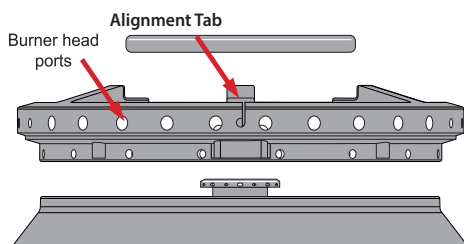

Figure 32: Burner head ports
1. Lift the burner cap from the burner head to clean the burner head and ports (See Figure 32).